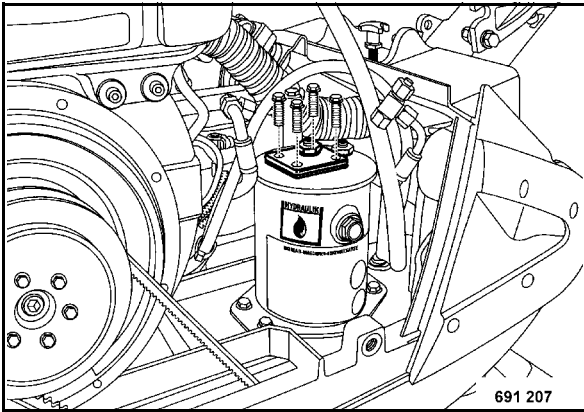

Fig. 77
- Remove the connecting flange (Fig. 77).